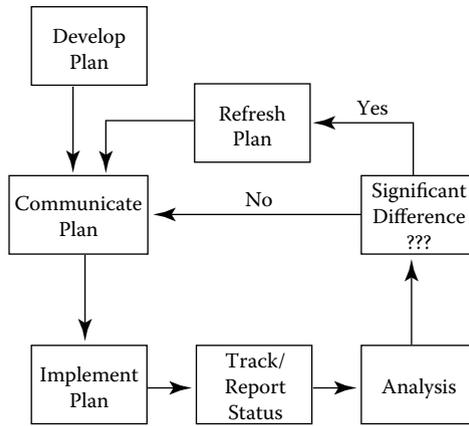

Figure 16.1 Project control cycle.
Your chart is ready now for progress tracking and reporting. Progress tracking has two parts: (1) tracking and (2) analysis. The frequency of tracking and reporting is set by your project control cycle (Figure 16.1).